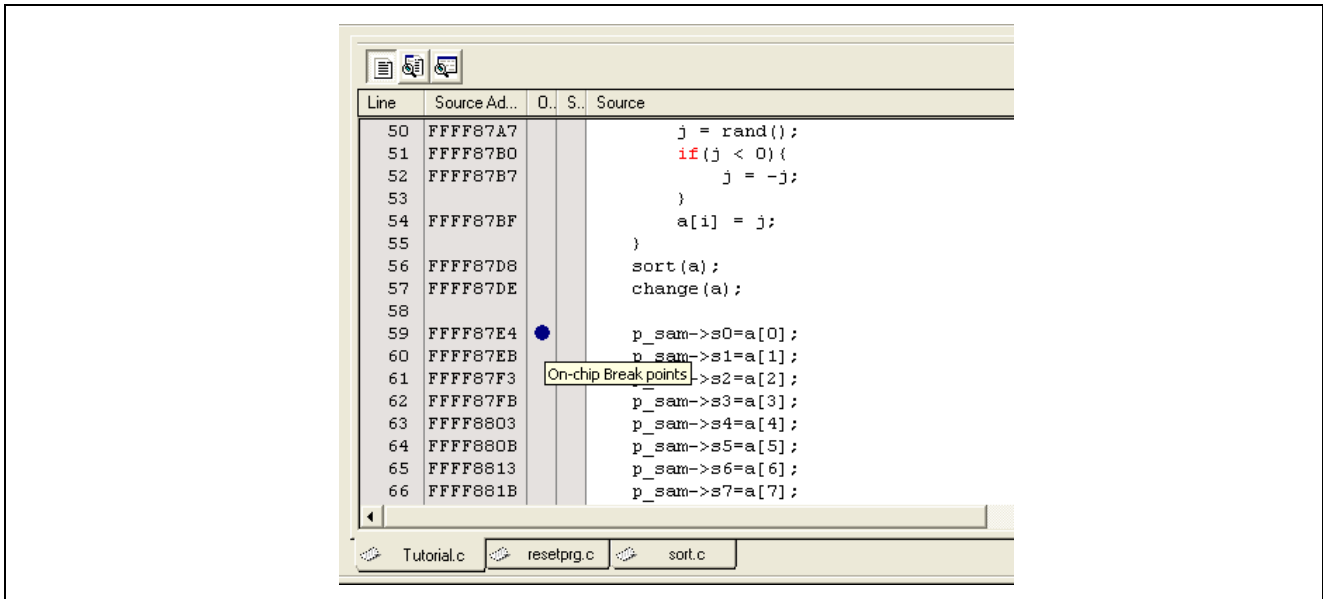

Figure 4.62 Setting a Breakpoint
- (4) To stop program execution, specify an on-chip breakpoint at line 59, which processes "p\_sam->s0=a[0];", in Tutorial.c as shown in Figure 4.62. For the breakpoint setting procedure, refer to section 4.10, Break Functions.